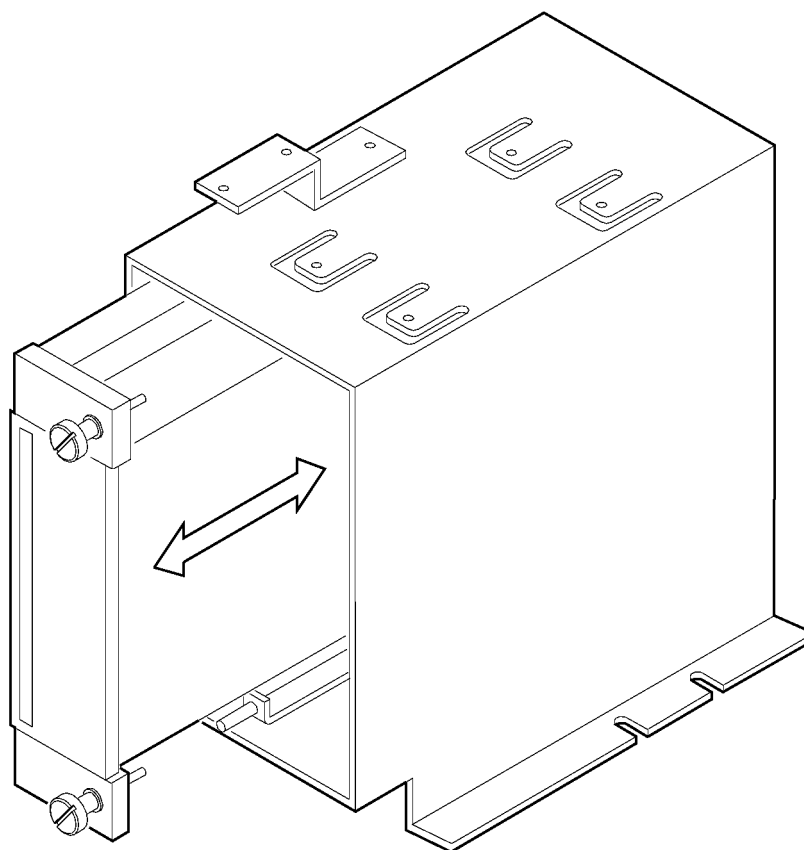

Figure 3–9: Removable 20 Mbyte Drive in DAS 9219/9220 Media Frame
5. Reconnect the cables to the mainframe Controller board, routing the cables so that they do not block the airflow from either the card-cage fan or the power-supply fan. The ribbon cables must be folded neatly, as shown in Figure 3–8.